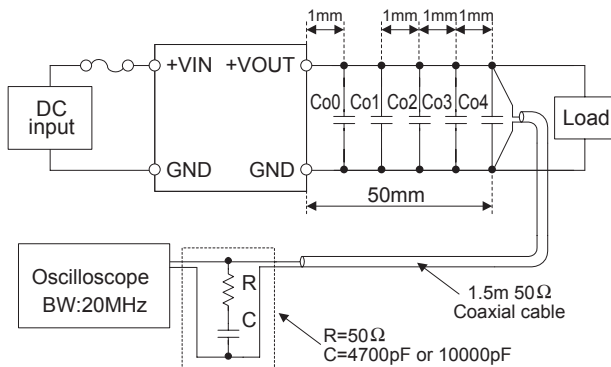

Fig.2.4 Measuring method of Ripple and Ripple Noise
■ Ripple and Ripple Noise are measured, as shown in the Fig.2.4.  $C_o0$ ,  $C_o1$ ,  $C_o2$  and  $C_o3$  is shown in Table 2.4.